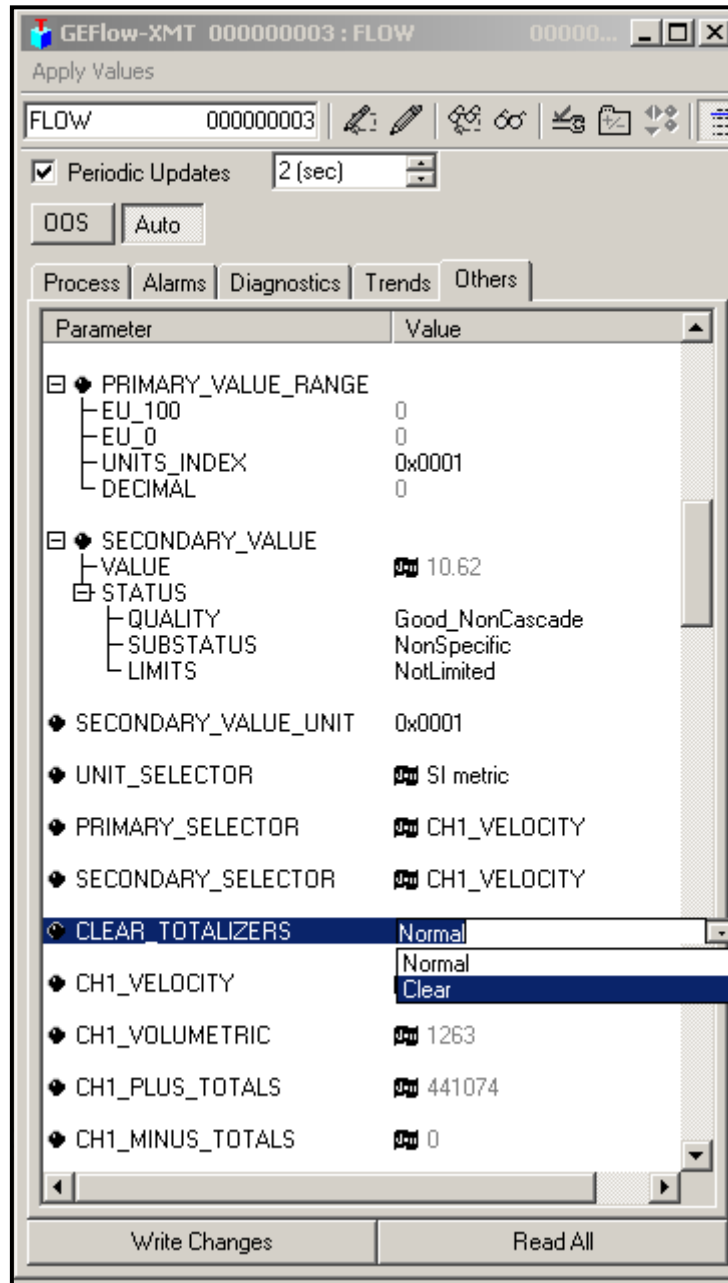

Figure 42: Clear Totalizers Drop Down List
3. Select **Clear** from the drop down list box (see *Figure 42 below*).